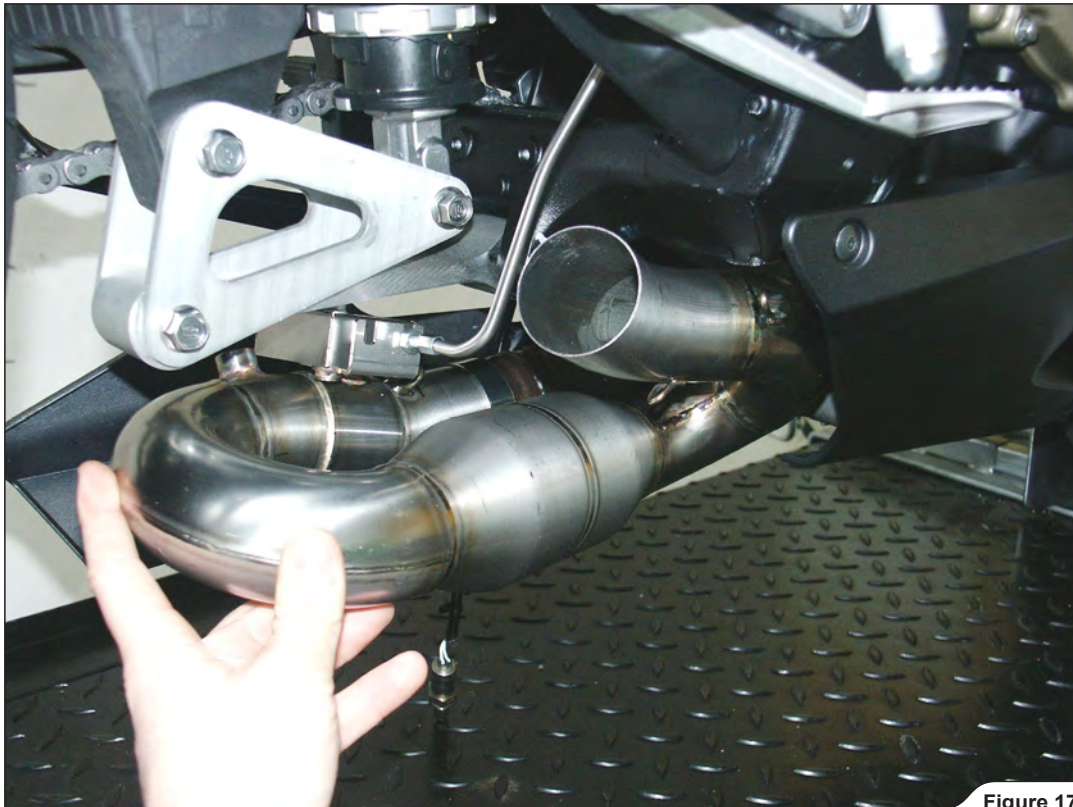

Figure 17
- Slide the link pipe onto the stock collector (**Figure 17**).